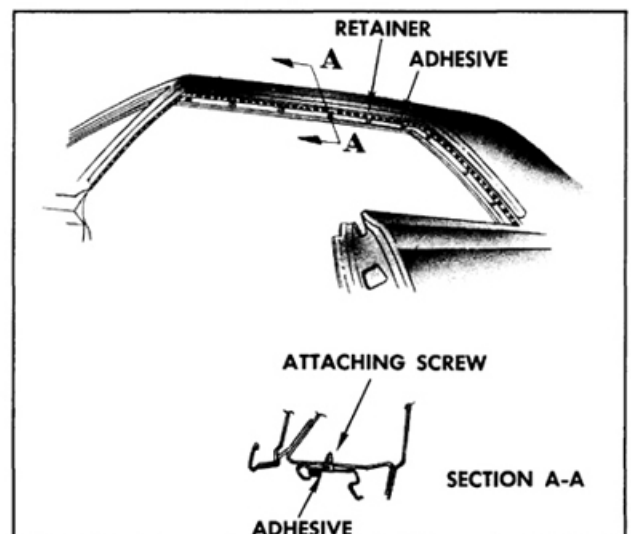

Fig. 16-357 Side Roof Rail Weatherstrip Sealing
2. Apply a continuous bead (approximately 3/16" diameter) of weatherstrip adhesive along entire surface of side roof rail weatherstrip retainer as shown in Section A-A in Fig. 16-357.
4. Tighten retainer attaching screws and install side roof rail weatherstrip. (Fig. 16-357)